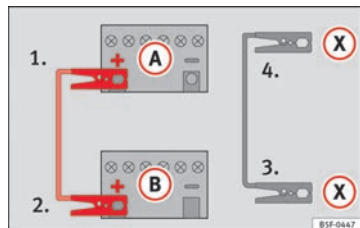

Fig. 177 Diagram of connections for vehicles with Start Stop system
- **For vehicles with Start-Stop system:** Connect one end of the *black* jump lead $\textcircled{X}$ to a suitable ground terminal, a solid piece of metal in the engine block, or to the engine block $\Rightarrow \text{Fig. 177}$.